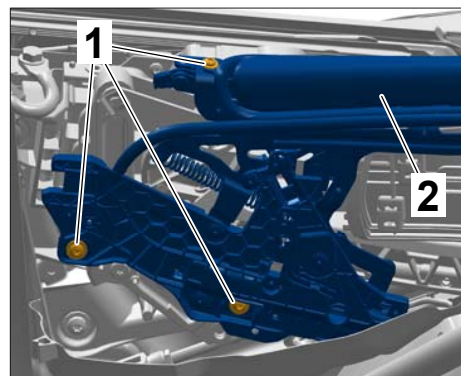

Figure 11
- 5.3 Unscrew fastening screws ⇒ *Figure 11 -1-* on the wind deflector ⇒ *Figure 11 -2-*.